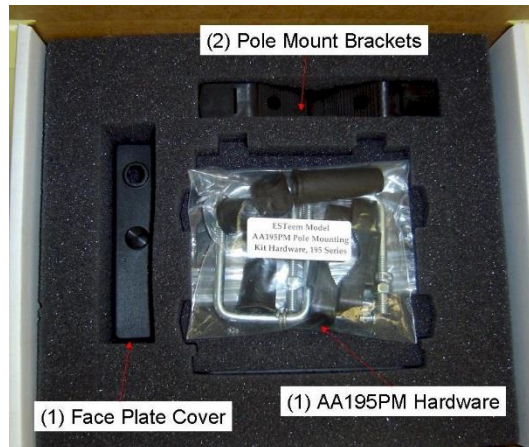

Figure 4: Packet Box Contents
1. If you purchased an AA195PM mounting kit with your Horizon, the kit will be packed in the same packing box as the ESTeem (Figure 4).
2. Remove and inventory the two (2) Pole Mounting Brackets, one (1) Two-Hole Face Plate Cover (with single port cover installed), one (1) Heat Shield and (1) AA195PM Hardware bag from the packing box (Figure 4). Report any missing or damaged items to ESTeem Customer Support (Phone 509-735-9092) as soon as possible for replacement.